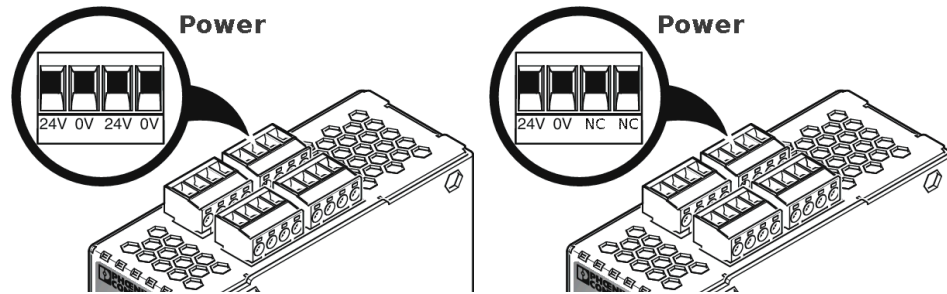

Figure 7-4 Connecting the supply voltage
- Insert the screw terminal blocks into the intended sockets on the top of the device (see Figure 7-4).